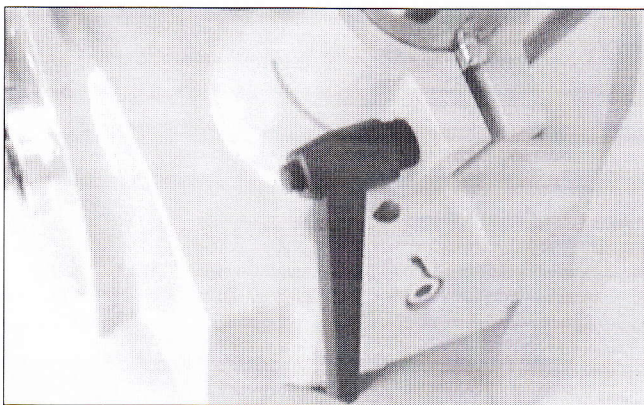

Fig. 10
❷ Adjust the screw holding the tube. (Fig. 10).